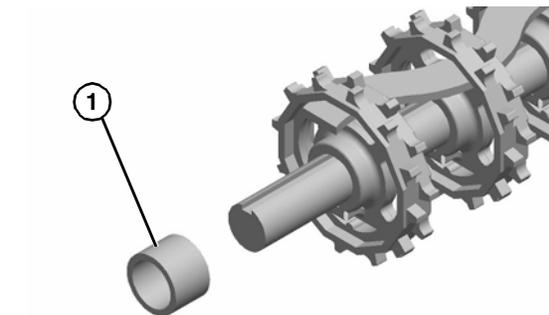

Figure 59
8. Slide off drive sprocket spacer (Figure 59, item 1).